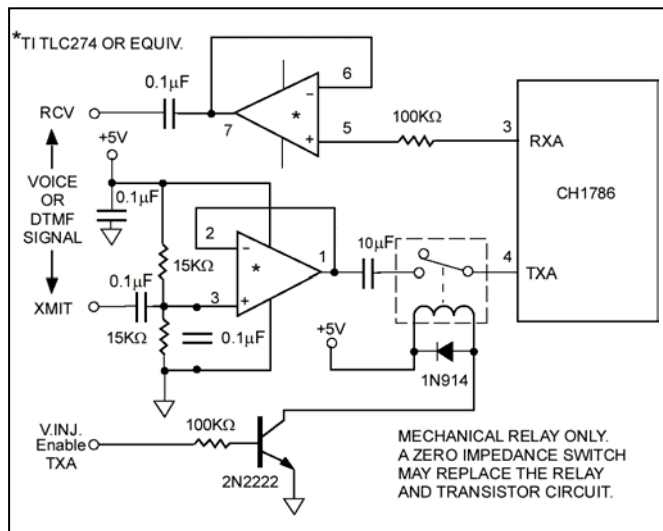

Figure 4. Voice/Tone Injection.
**Voice/DTMF Tone Injection Port.** The CH1786 provides two pins to allow the user to share the telephone line interface associated with the modem for voice and DTMF applications. Figure 4 contains a schematic indicating one possible configuration for voice/ tone utilization.
Typically, voice communication would precede data communications. For this case, the following commands should be used to configure the CH1786 (Refer to Figure 4):